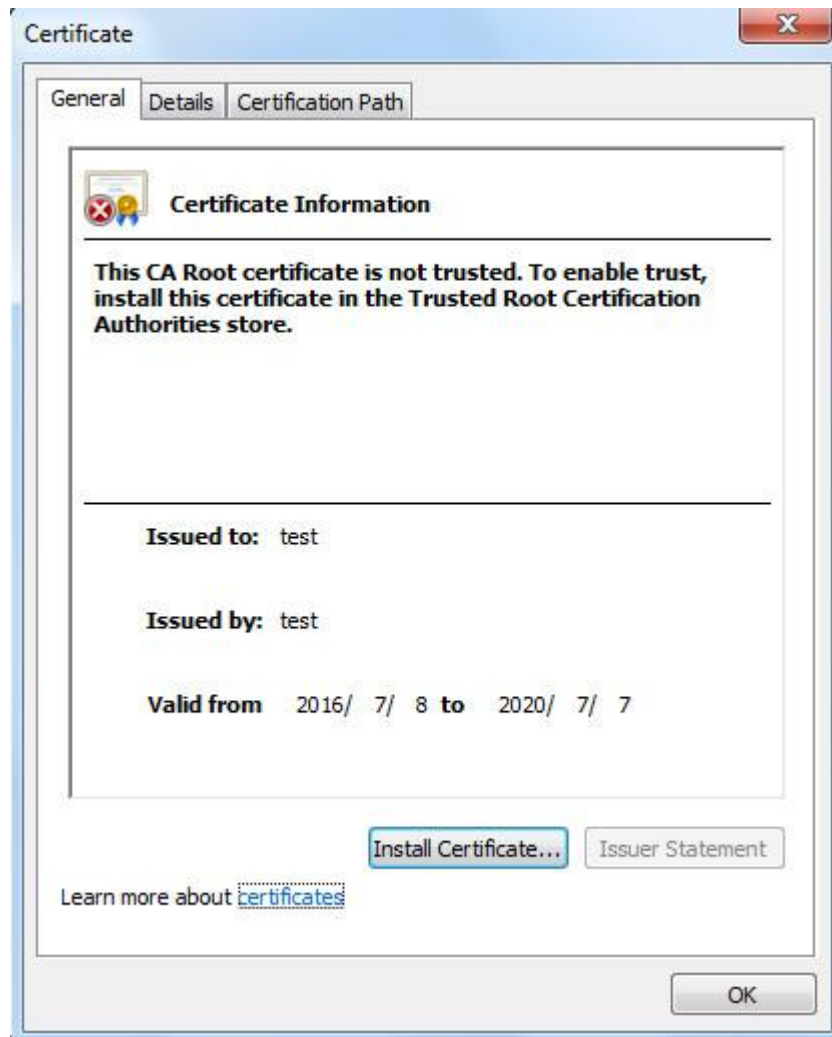

Figure 4-56
1. Double click  RootCert.cer which has been downloaded. The system will pop out the dialog box of “certificate”, which is shown in Figure 4-56.